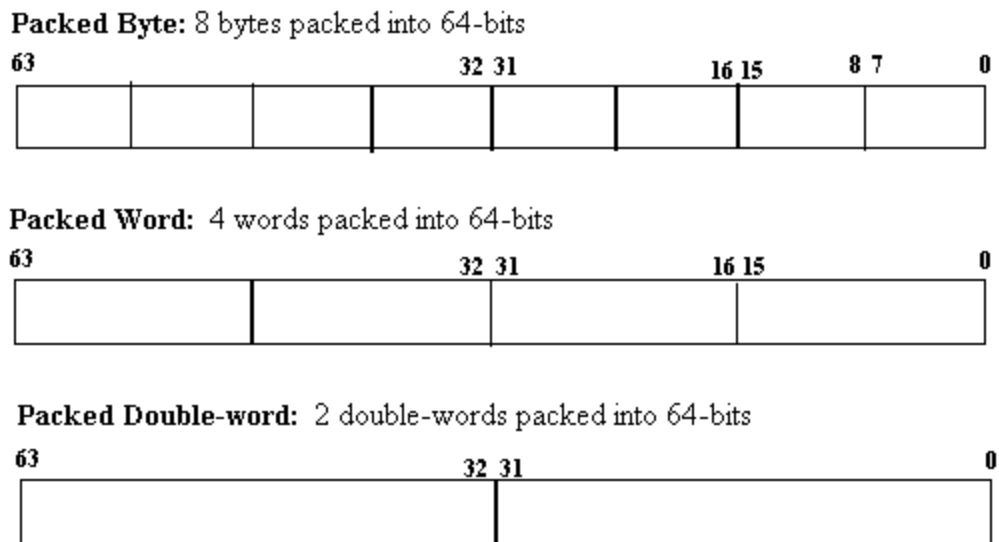

Figure 1-1. New Data Types
Intel's MMX technology is an extension to the Intel Architecture (IA) instruction set. The technology uses a single instruction, multiple data (SIMD) technique to speedup multimedia and communications software by processing multiple data elements in parallel. The MMX instruction set adds 57 new opcodes and a new 64-bit quadword data type. The new 64-bit data type, illustrated in Figure 1-1 below, holds packed integer values upon which MMX instructions operate.